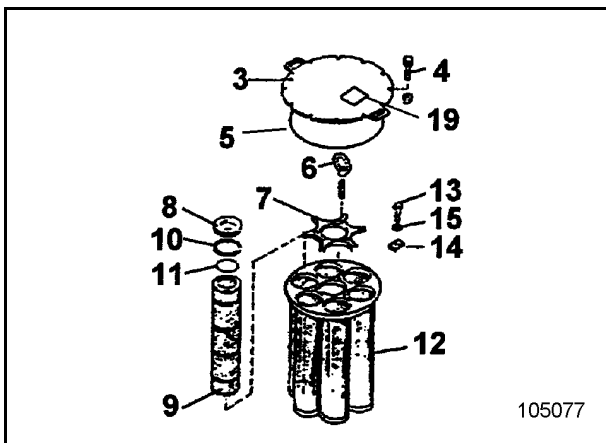

Fig. 3-93:
- Remove cap (19, Fig. 3-93:).
- Refit cap (19, Fig. 3-93:).